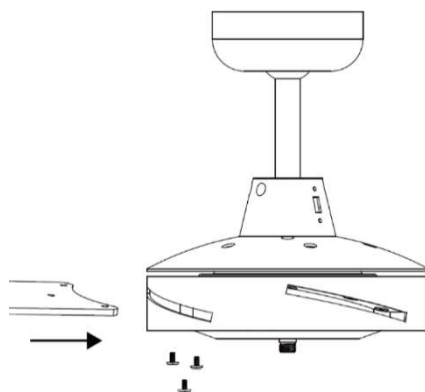

Fig. 6
3. Insert the blade into the slot of rotating member of fan motor assembly and align the 3 mounting holes on the blade to the 3 mounting holes on the rotating member of fan motor assembly and using the 3 blade screws (removed in step 1) to secure the blade to the fan motor assembly, ensuring they are tightened equally and evenly tighten. (Take care not to over tighten as this can damage blades). Fig.6